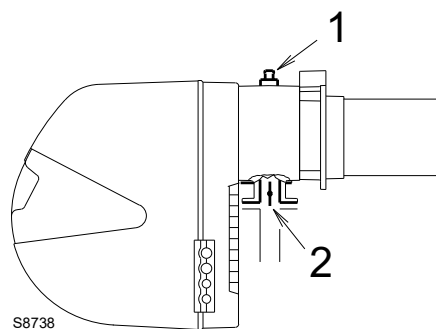

Fig. 18
Gas pressure measured at test point 1)(Fig. 18), with:
Pressure loss at gas butterfly valve 2)(Fig. 18) with maximum opening: 90°.
- subtract the pressure in combustion chamber from the gas pressure measured at test point 1) (Fig. 18).
Gas pressure at test point 1)(Fig. 18) = 9.5 mbar
To calculate the required gas pressure at test point 1) (Fig. 18), set the maximum modulating output required from the burner operation:
- read, on the right (column 1), the pressure at the test point 1) (Fig. 18).
pressure required at test point 1)(Fig. 18).